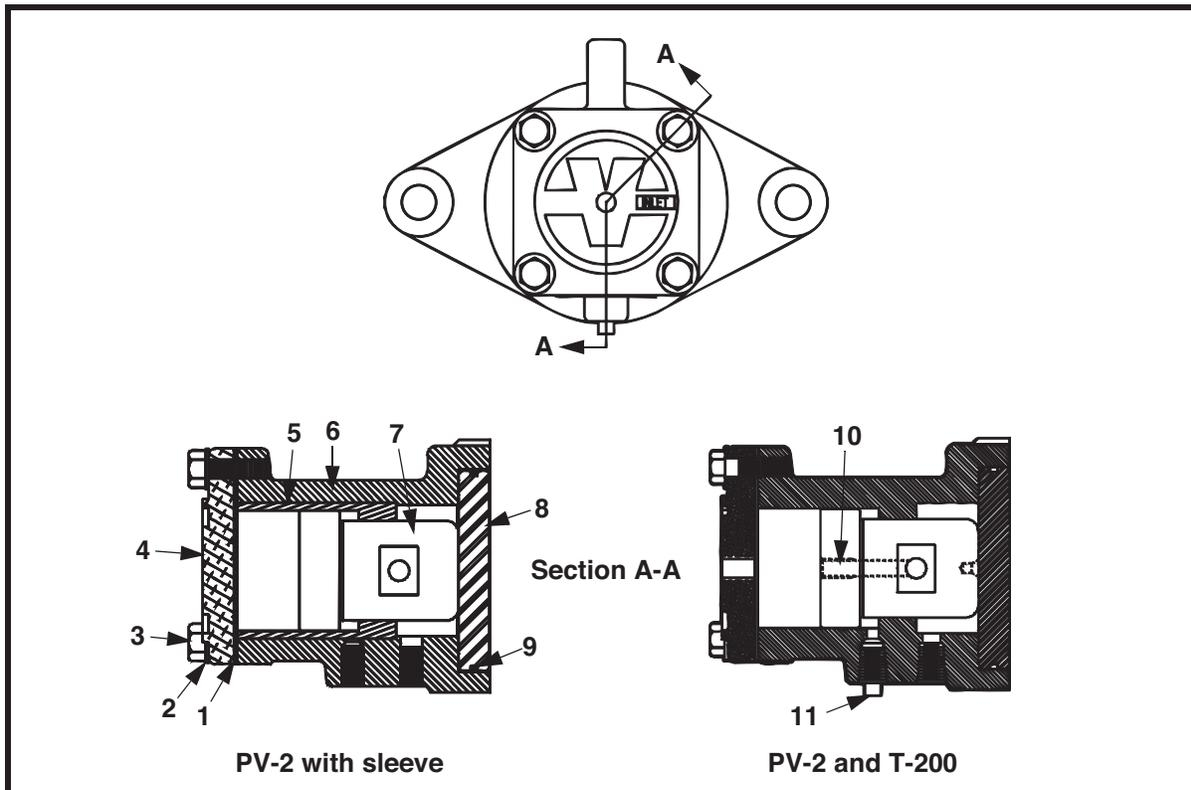

Figure 9. Martin® PV-2 (P/N 12889 or 19862) Piston Vibrator or Thumper™ T-200 (P/N 21682) Timed Impactor Assemblies
- Martin® PV 2 Piston Vibrator Assembly:** P/N 12889. See Figure 9.
- Martin® Thumper™ T-200 Timed Impactor Assembly:** P/N 21682. See Figure 9.